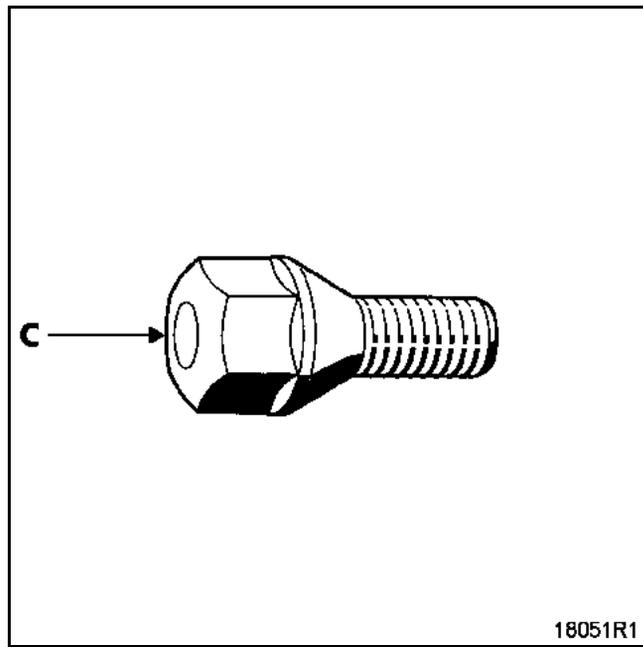

Fig. 2
Vehicles manufactured **AFTER AUGUST 2000** fitted with wheel bolts **WITHOUT** a washer (C) (Fig. 2)